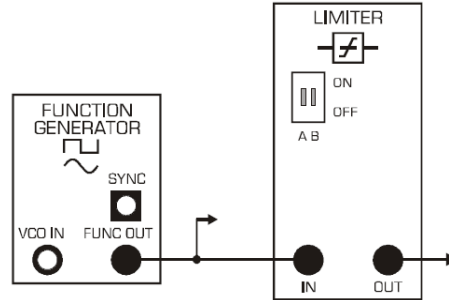

Figure 2-1 Diagram of “Clipping” System
1. Connect the FUNC OUT terminal of the FUNCTION GENERATOR to the LIMITER input (See Figure 2-1). Connect CH0 to this input. Connect CH1 to the LIMITER output. The settings are as follows: